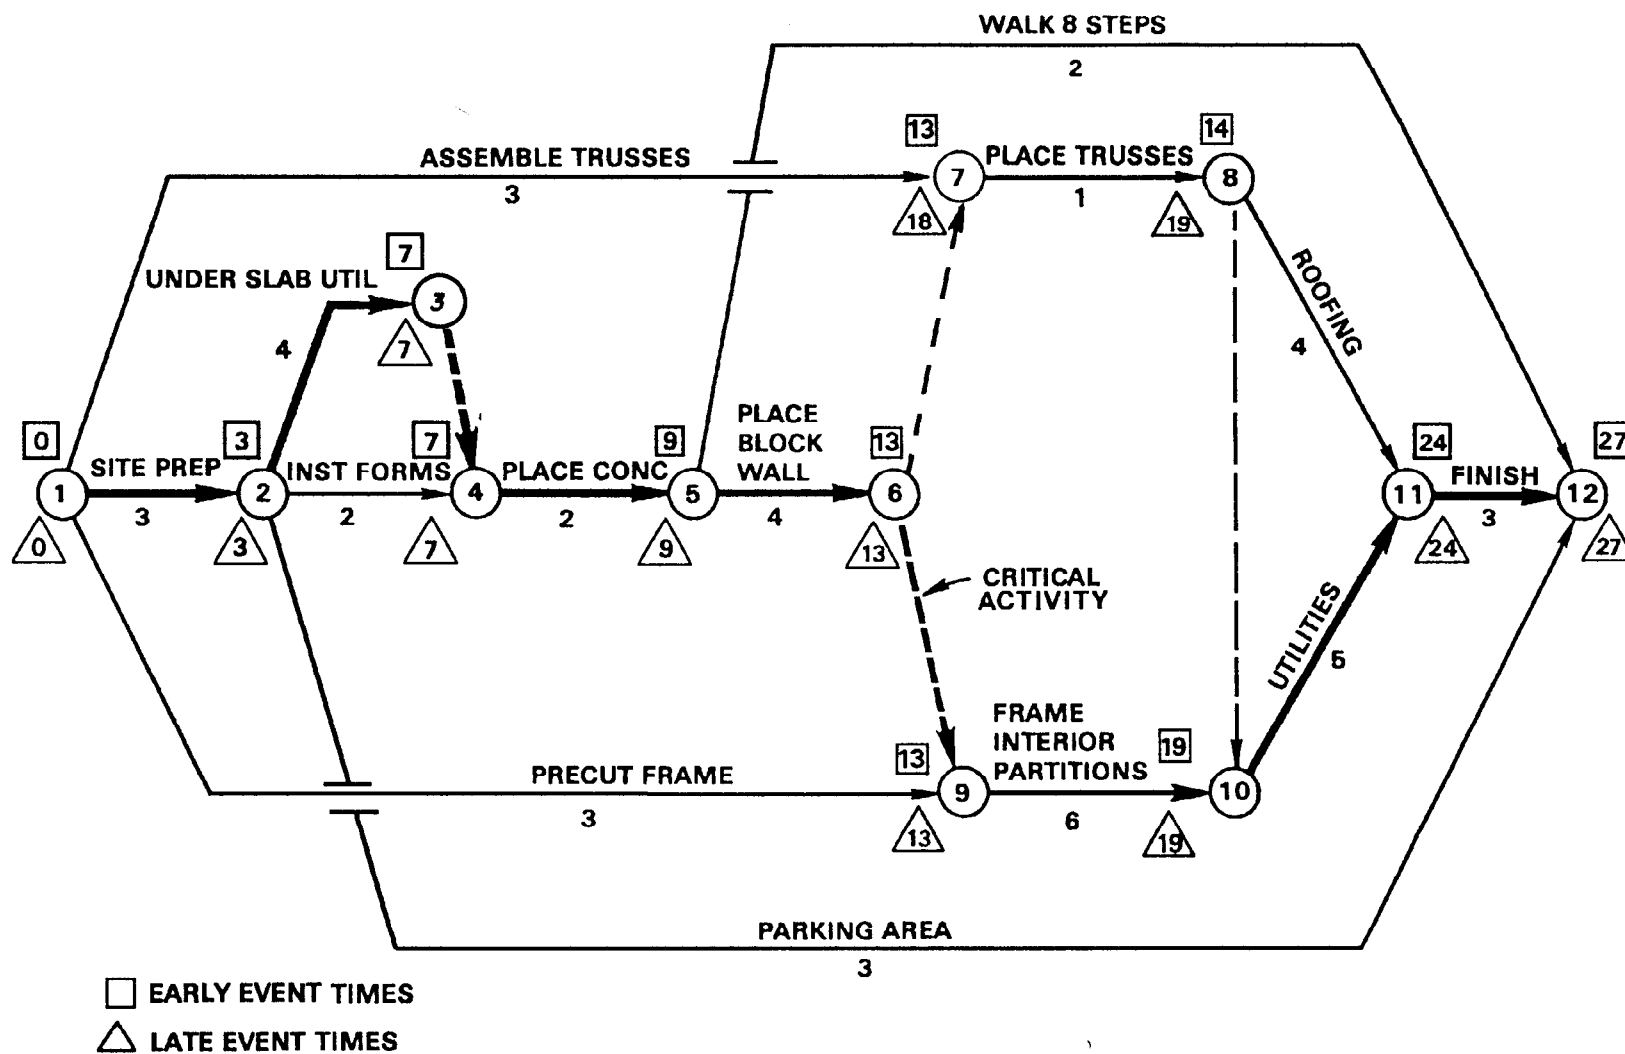

Figure G-6. CPM diagram for a typical office building
c. Early Event Time (EET). Also shown on the CPM diagram (in the square above each event number) are the early event times. They are used to determine the earliest time that each event in the path can be started. The early event time equals the longest of the paths coming into an event. Figure G-6 shows that the project will take an estimated 27 working days, or about 4 weeks.
choosing the smallest one will ensure that the project is not delayed. If the last late event time calculated is not zero, a mistake has been made. (See figure G-6.)
f. Tabulation of Construction Activities. Perhaps the easiest way to get information from the CPM diagram is to construct a table that shows the activity number and title, activity duration, earliest start, and latest finish. (See table G-2.) Adding duration to the ES column and subtracting it from the LF column yields EF and LS, respectively. TF then is simply LS minus ES (or LF minus EF). All activities with zero TF are on the critical path. In table G-2, an ES of 0 means that work starts at the beginning of time period 1, and an LF of 3 means work ends at the end of time period 3. As shown in figure G-6, the shortest time in which the project can be completed is 27 days (see column EF of activity 11-12).